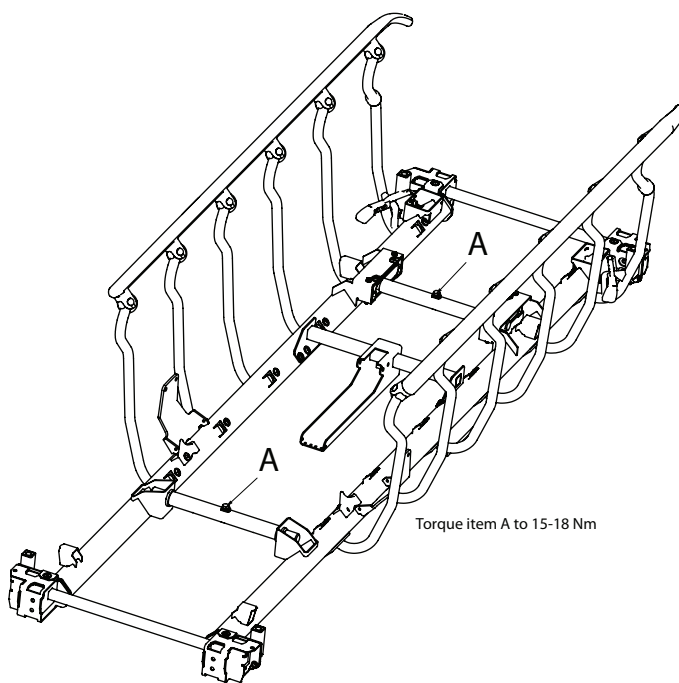

Figure 14 – Litter top removal, Kapado-X
4. At the head end and foot end of the product use a 13 mm socket wrench with a 3/8" drive extension and a 3/8" drive ratchet to remove the two hex head bolts (A) that secure the jack support tubes to the jack shafts (Figure 14).